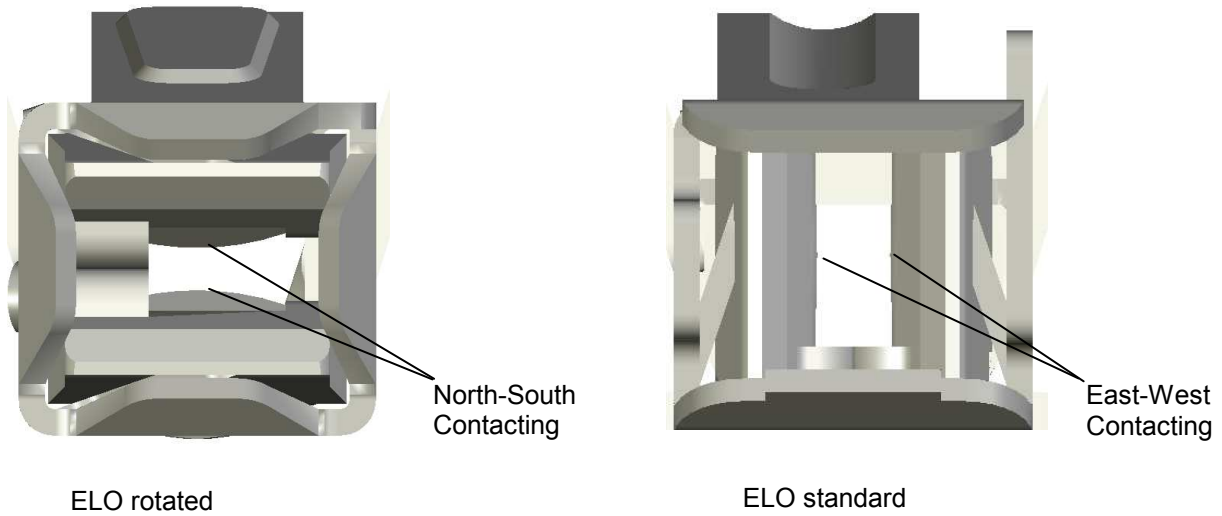

Figure 3: ELO socket contact rotated/standard
3.1.3 ELO socket contact rotated (see figure 3)